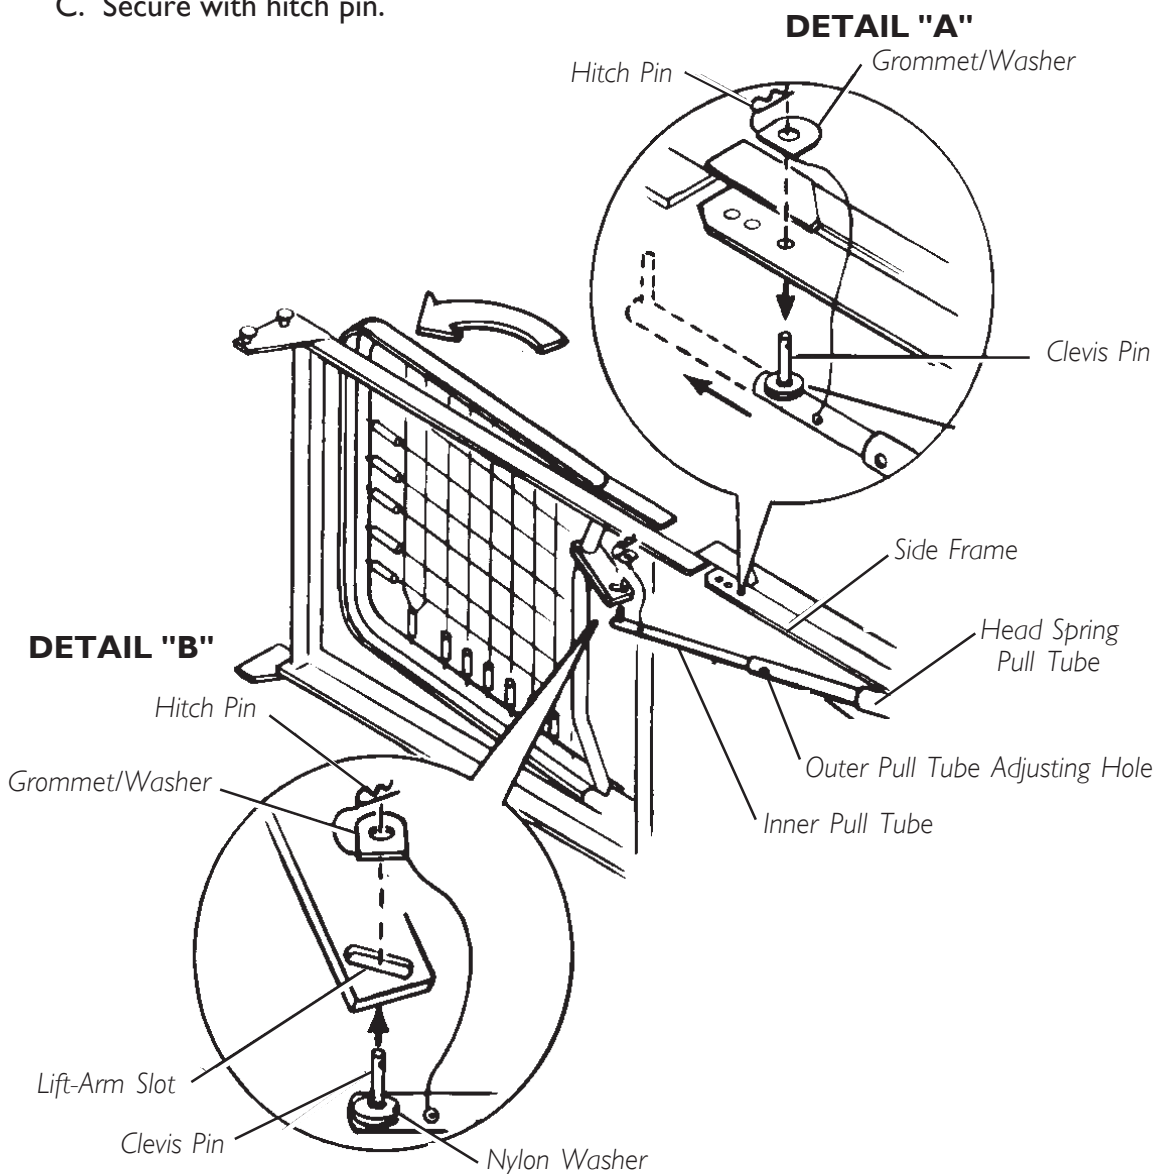

FIGURE 4 - ADJUSTING AND RECONNECTING THE HEAD SPRING PULL TUBE
ADJUSTING AND RECONNECTING THE HEAD SPRING PULL TUBE (FIGURE 4)
1. To disconnect the head pull tube assembly from the side frame of the foot spring remove the hitch pin, grommet/washer from the clevis pin. Refer to FIGURE 4, DETAIL "A".
3. Connect the pull tube end assembly to the lift arm of the head spring as follows. Refer to FIGURE 4, DETAIL "B".
NOTE: Before assembling bed, ensure that the locking casters are attached to the universal bed ends diagonally across from each other. See Figure 4.